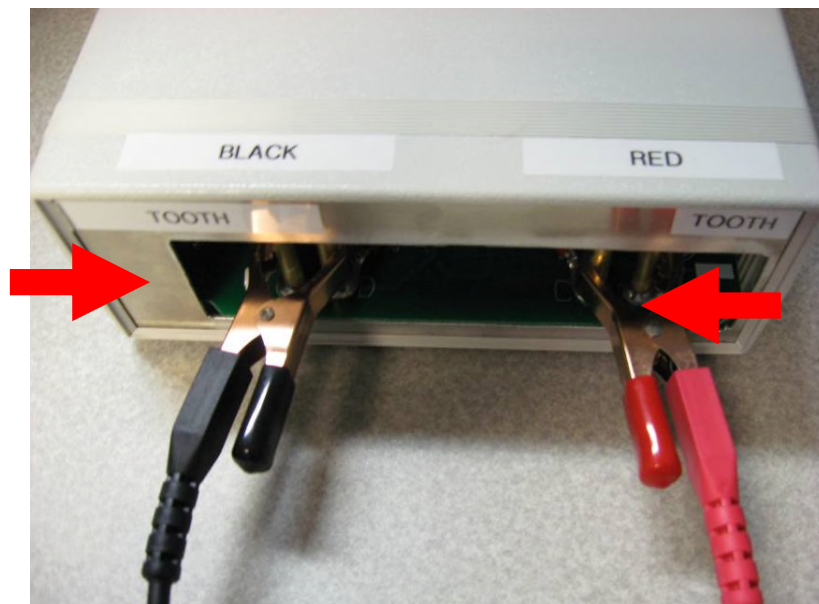

Figure 4
4. Attach Unit Under Test (UUT) to fixture and PCB. See figure 4 and 5.